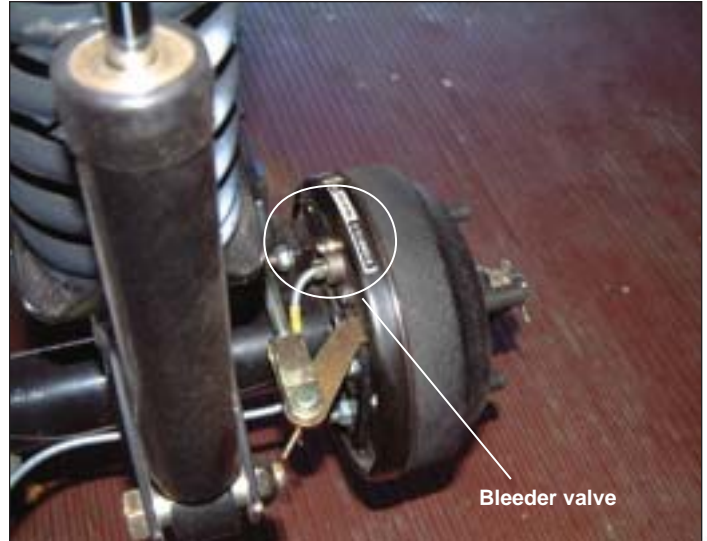

Figure 5-9. Hydraulic Brake Caliper Bleeder Valve
1. Install a length of appropriate size plastic tubing over the wheel cylinder bleeder valve located on the back side of the hub assembly (Figure 5-9).